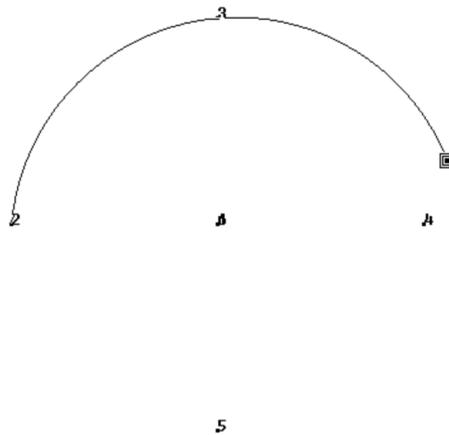

Figure 3: Floating arc section created after clicking on two points
2. Click on points 2 and 3, and note that a floating arc section is created, as shown in Figure 3.